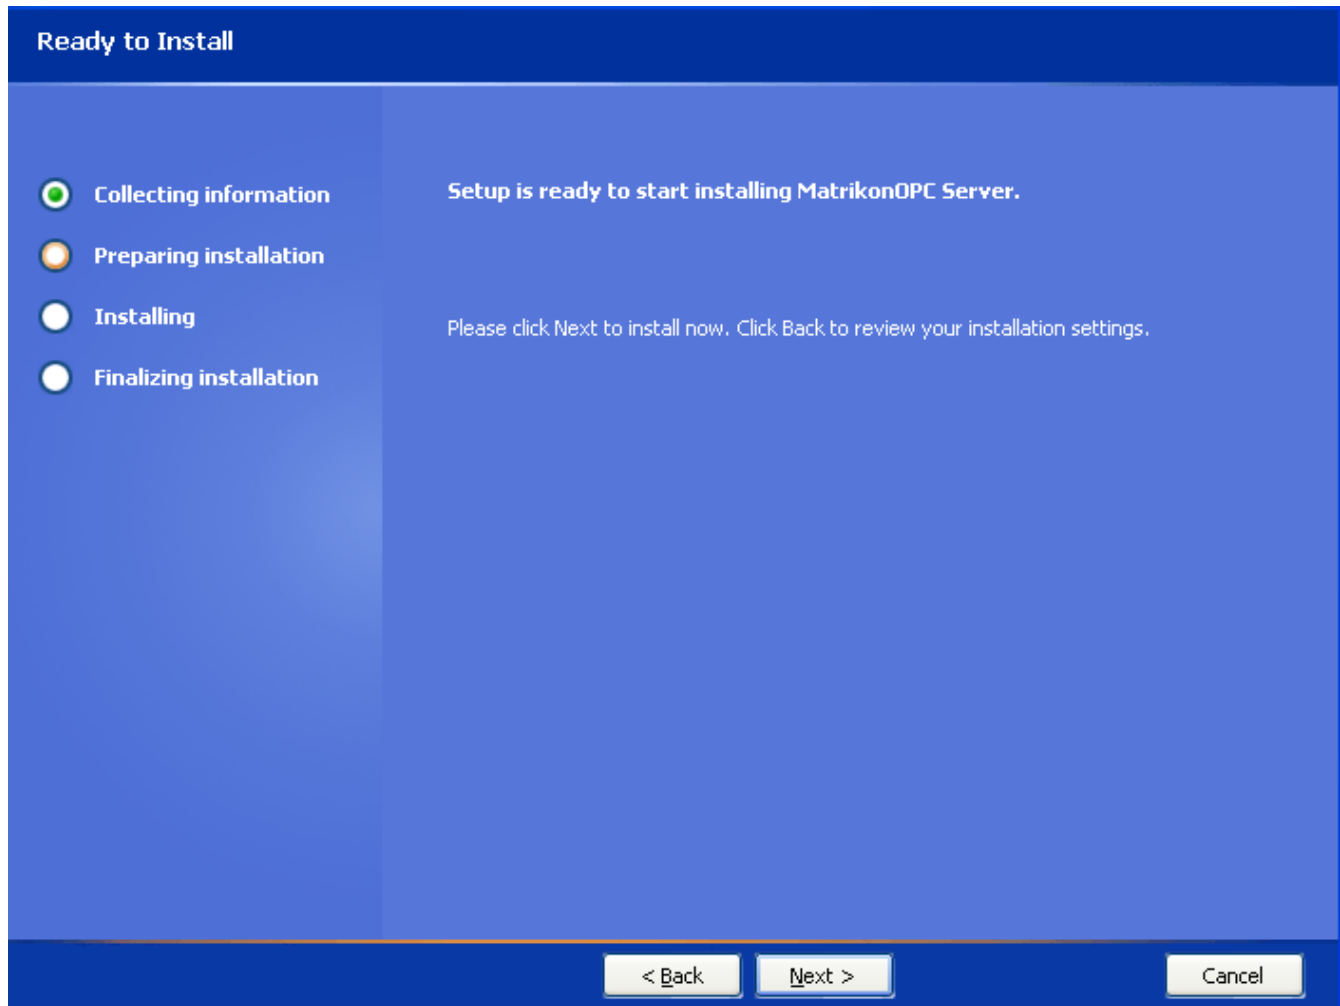

Figure 91 - Ready to Install Screen
18. Click on the **Next** button. The **Ready to Install** screen (Figure 91) appears.